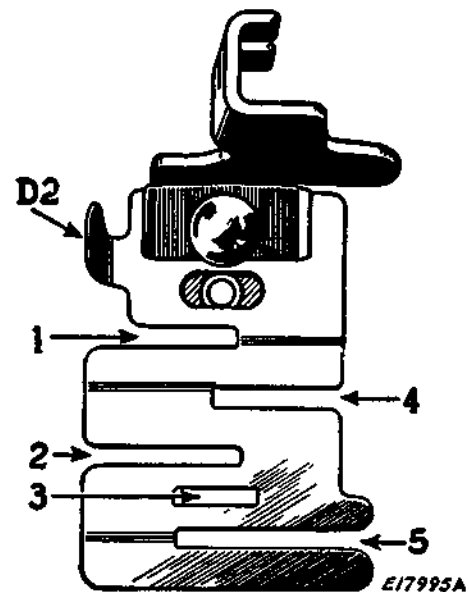

FIG. 51
The distance from the line of stitching to the edge of the material in the slots is regulated by moving the lug **D2**, **Fig. 51** to the right or left.
- (1) Insert one of the laces in slot **1** of the edge stitcher and the other in slot **4**, **Fig. 51**.
- (2) Adjust the lug **D2** until the edges to be joined are caught by the stitching.
- (3) Slightly overlap the edges of the lace while stitching to keep them against the ends of the slots.
- (4) Loosen both thread tensions to avoid puckering of fine lace.
- (1) Cut the piping bias and twice the width of the slot 3 so that it can be folded once.
- (2) Insert the piping with its folded edge to the left in slot 3 and the edge to be piped in slot 4, **Fig. 51.**
- (1) Place the garment under the edge-stitcher and the tape in slot 1 or 4, **Fig. 51.**
- (1) A wide hem may be stitched evenly on sheets, pillow slips, etc., with the edge-stitcher after the hem has been measured and the edge turned.
- (2) Insert the edge in slot 5, Fig. 51, and adjust the lug **D2** to stitch as close to the edge as desired.
- (1) To make a uniform width French seam, insert the two edges to be joined, wrong sides together, in slot 1 or 2 Fig. 51 and stitch close to the edge.
- (2) Fold both right sides together and insert the back of the seam in the slot 1 and stitch, allowing just enough margin to conceal the raw edges.